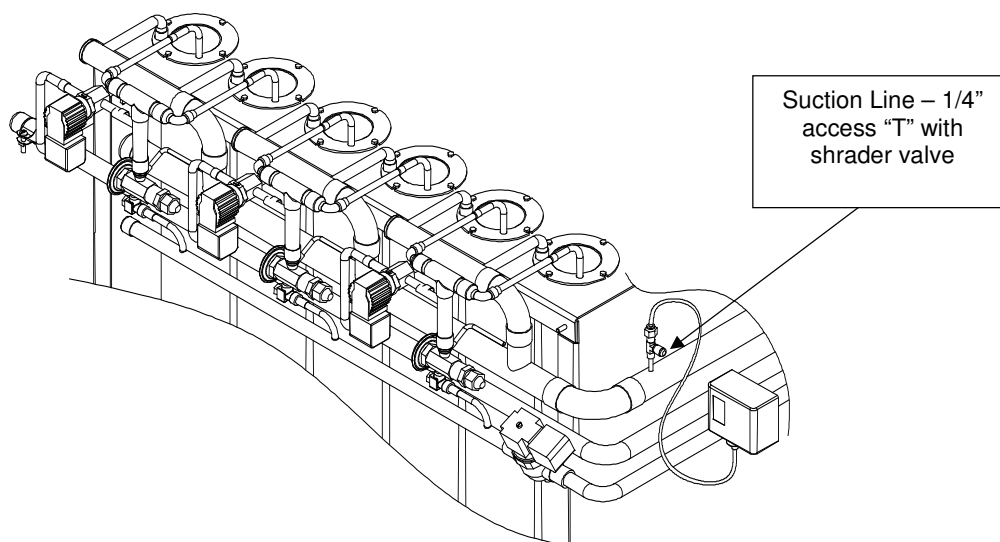

FIGURE 4-6
- If it takes longer than 10 seconds to clear the glass, the unit is undercharge. Add refrigerant to system at compressor suction port or the 1/4" access fitting on suction line. (See Figure 4-6)